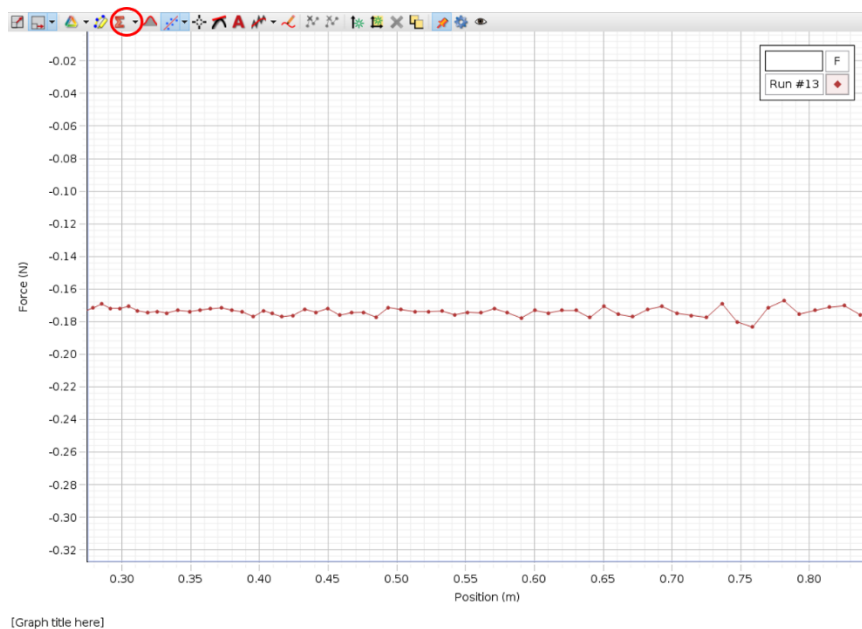

Figure 4: Force versus distance for a constant force.
7. You should have a force versus position graph that looks similar to Figure 4. Use the  button to find the average force the standard deviation in the force. The average force should be calculated between the approximate position of $a \approx 0.20\text{ m}$ to $b \approx 0.80\text{ m}$. Please record your interval, $[a, b]$; your interval may not necessarily be 0.2 m to 0.8 m .